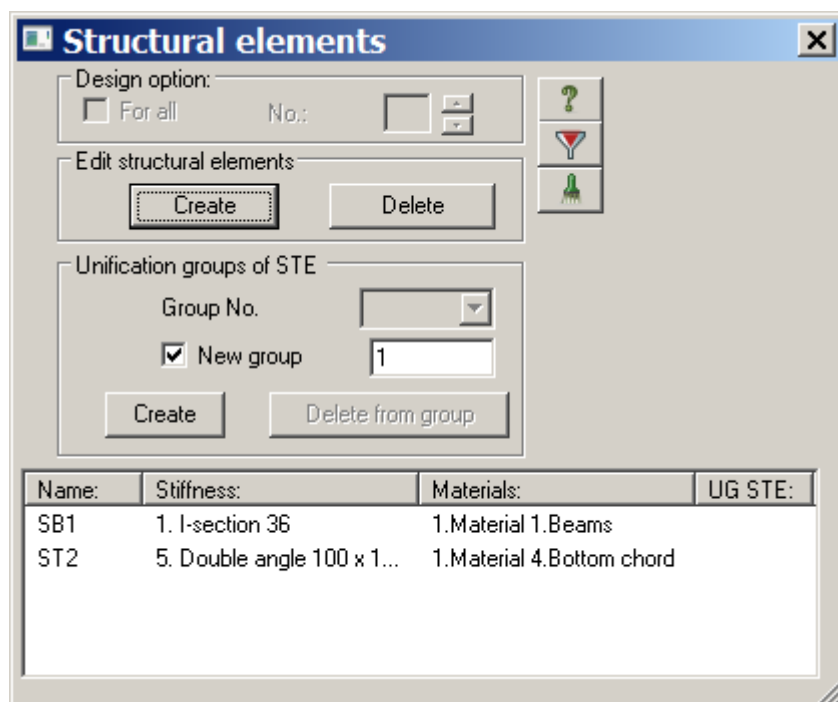

Figure 3.27 Structural elements dialog box
- ⇒ In the **Structural elements** dialog box (see Fig.3.27), under **Edit structural elements**, click **Create**.